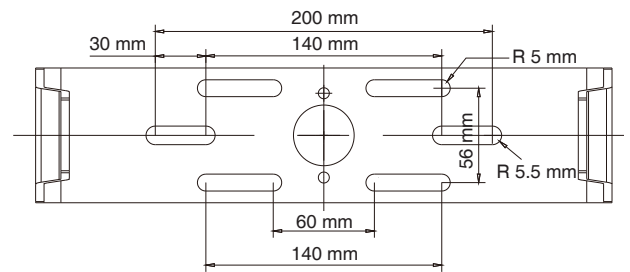

Figure 1
9. Secure the wall/ceiling/floor mounting bracket to the structure by using screws (not provided) (Fig. 1).